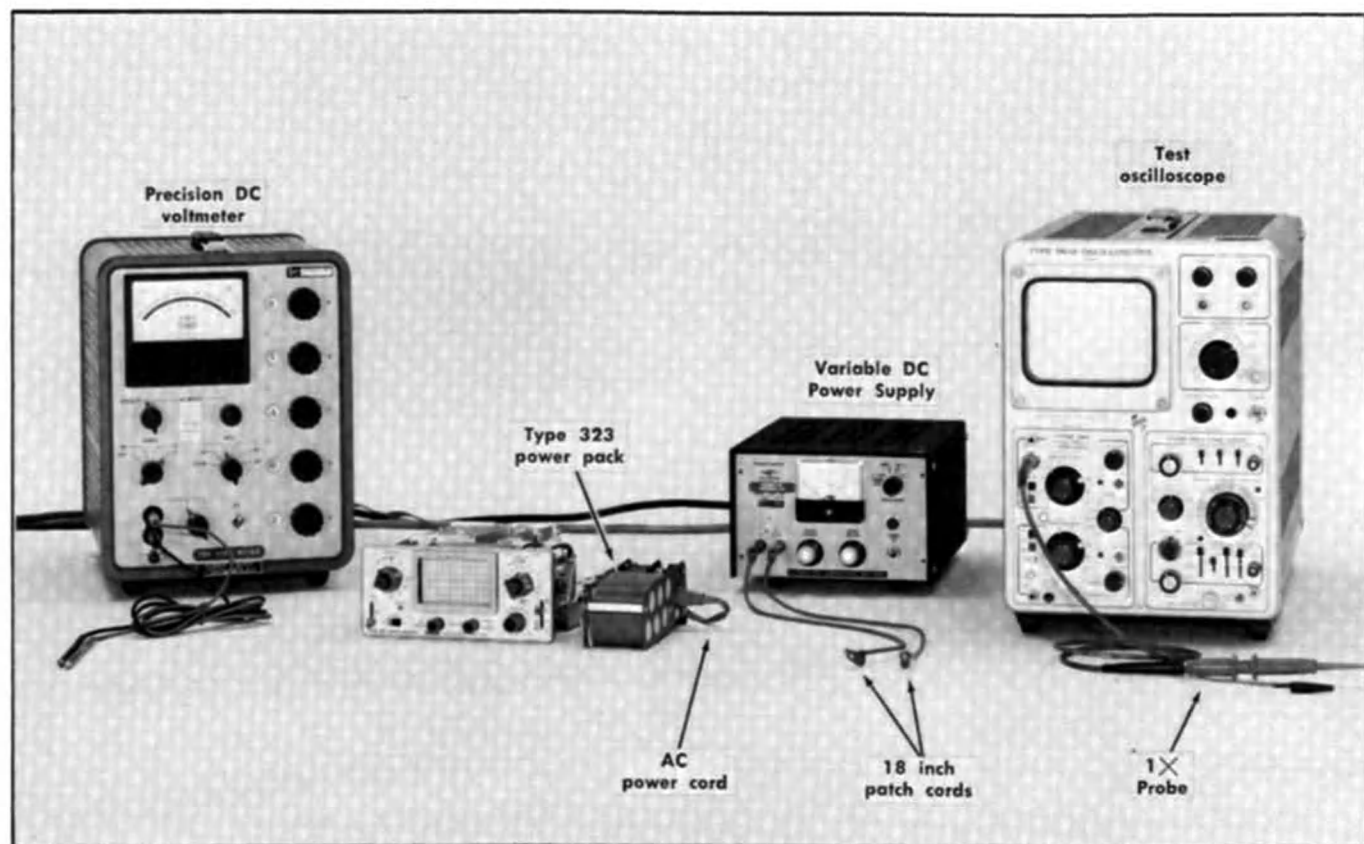

Fig. 6-1. Initial test equipment setup for steps 1 through 12.
a. Test equipment setup is shown in Fig. 6-1.